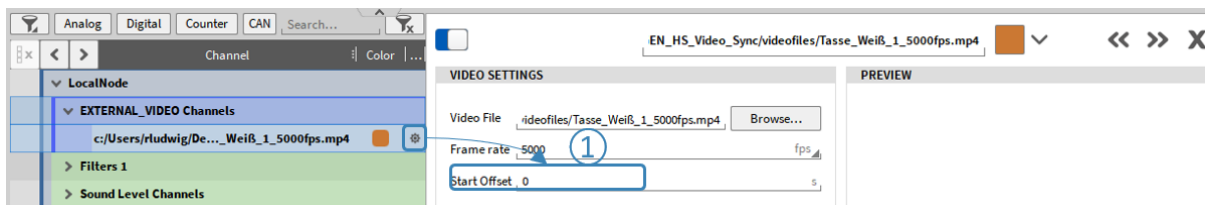

Fig. 7.155: Compensating a deterministic delay between video and sensor data
If the latency between video and sensor data is known it can be compensated by entering the delay in *Start Offset* in the video's channel setup (see ① in Fig. 7.155).